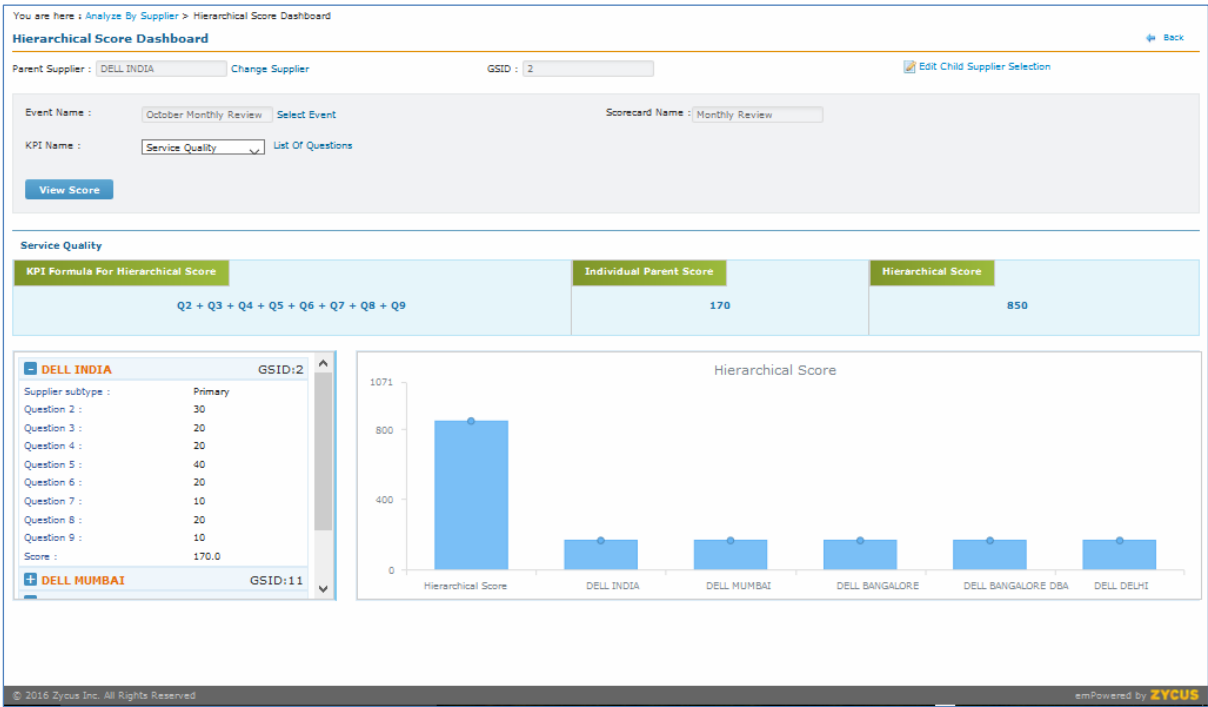

Figure 1: Hierarchical Score Dashboard
- For example, from above Figure 1: Hierarchical Score Dashboard, (Value of Question 2 for DELL INDIA + Value of Question 2 for DELL MUMBAI + Value of Question 2 for BANGALORE + Value of Question 2 for DELL BANGALORE DBA + Value of Question 2 for DELL DELHI) = Q2. Q3 to Q9 will be calculated in a similar manner.
- As per the Figure 1: Hierarchical Score Dashboard, “DELL INDIA” is the parent supplier selected. Hence, the **Individual Parent Score** displayed will be that of DELL INDIA.